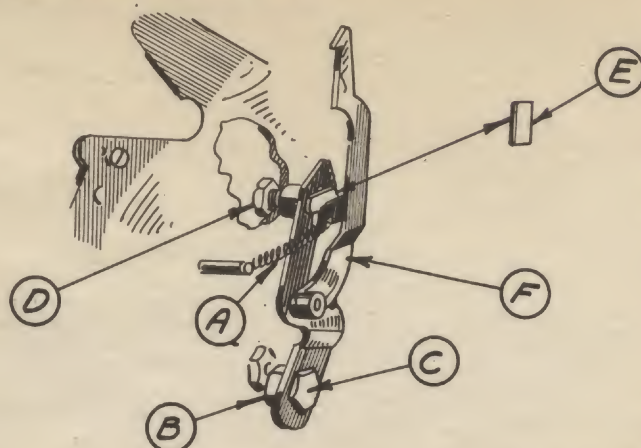

FIG. 1
- 284 REMOVE SCREW (J) AND TAKE OFF EXTRA CARRY GEAR (K) - UNHOOK SPRING (L) AND REMOVE BELL TRIGGER AND HAMMER (M) - REMOVE SCREW (N) AND THE REAR INTERMEDIATE GEAR SHAFT ASSEMBLY AND CHECK SUPPORT ROD COMPLETE MAY BE TAKEN OFF.
- 285 TAKE OFF SCREWS (P) AND REMOVE TIE ROD (Q) - REMOVE COVER CASE POSTS (R) AND TIE ROD (S) - DRIVE OUT PIN (U) AND REMOVE GEAR (V) WITH KIT TOOL #75 - LOOSEN INSIDE NUTS (T) - TAKE OFF THE ADJUSTING KNOB (W) WITH SPRING AND BEARING - REMOVE BEARING (X) AND EXTRACT REAR CARRYING SHAFT.
- 286 REMOVE THE REAR SELECTING SHAFT - SAME AS FIG. 1 PLATE 42 - THIS BULLETIN - BUT REMOVE THE FRICTION BRAKES ALSO.